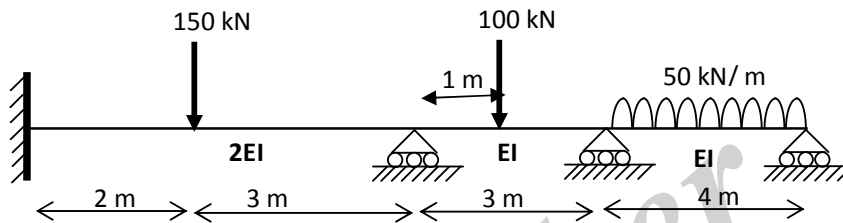

Fig.3
6. Analyse the beam shown in Fig.3, using Kani's method.